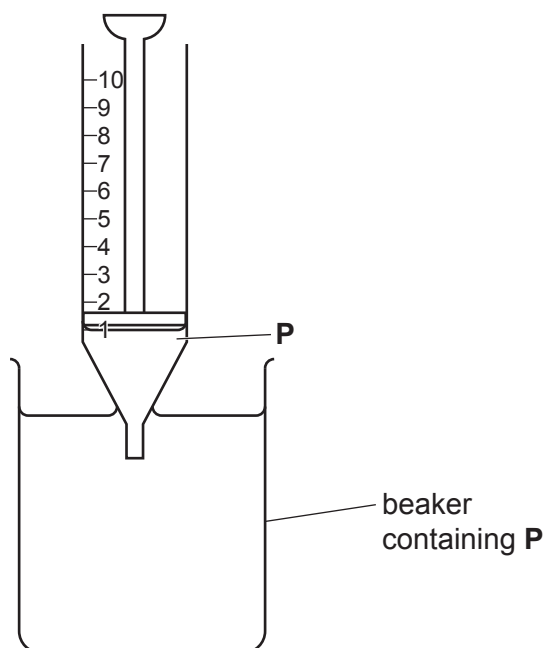

Fig. 1.2
5. Pull the plunger out to the 1 cm^3 mark so that **P** enters the syringe, as shown in Fig. 1.2.